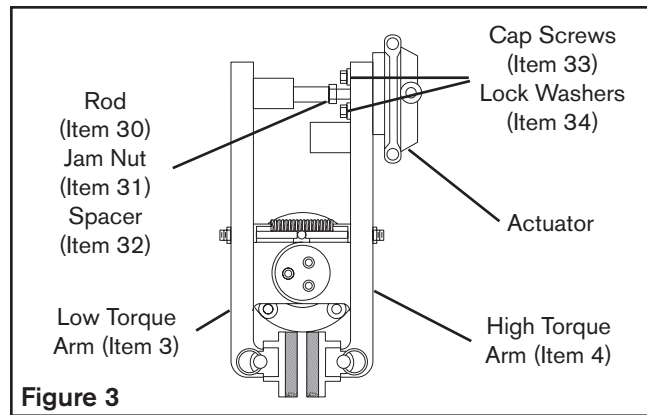

Figure 3
1. Insert the Rod (Item 30), Jam Nut (Item 31), and Spacer (Item 32) into the Actuator (See Figure 3).
NOTE: Mount this assembly on either the Low Torque Arm (Item 3) or the High Torque Arm (Item 4) (See Figure 3).
2. Install the Cap Screws (Item 33) and the Lock Washers (Item 34) (See Figure 3).